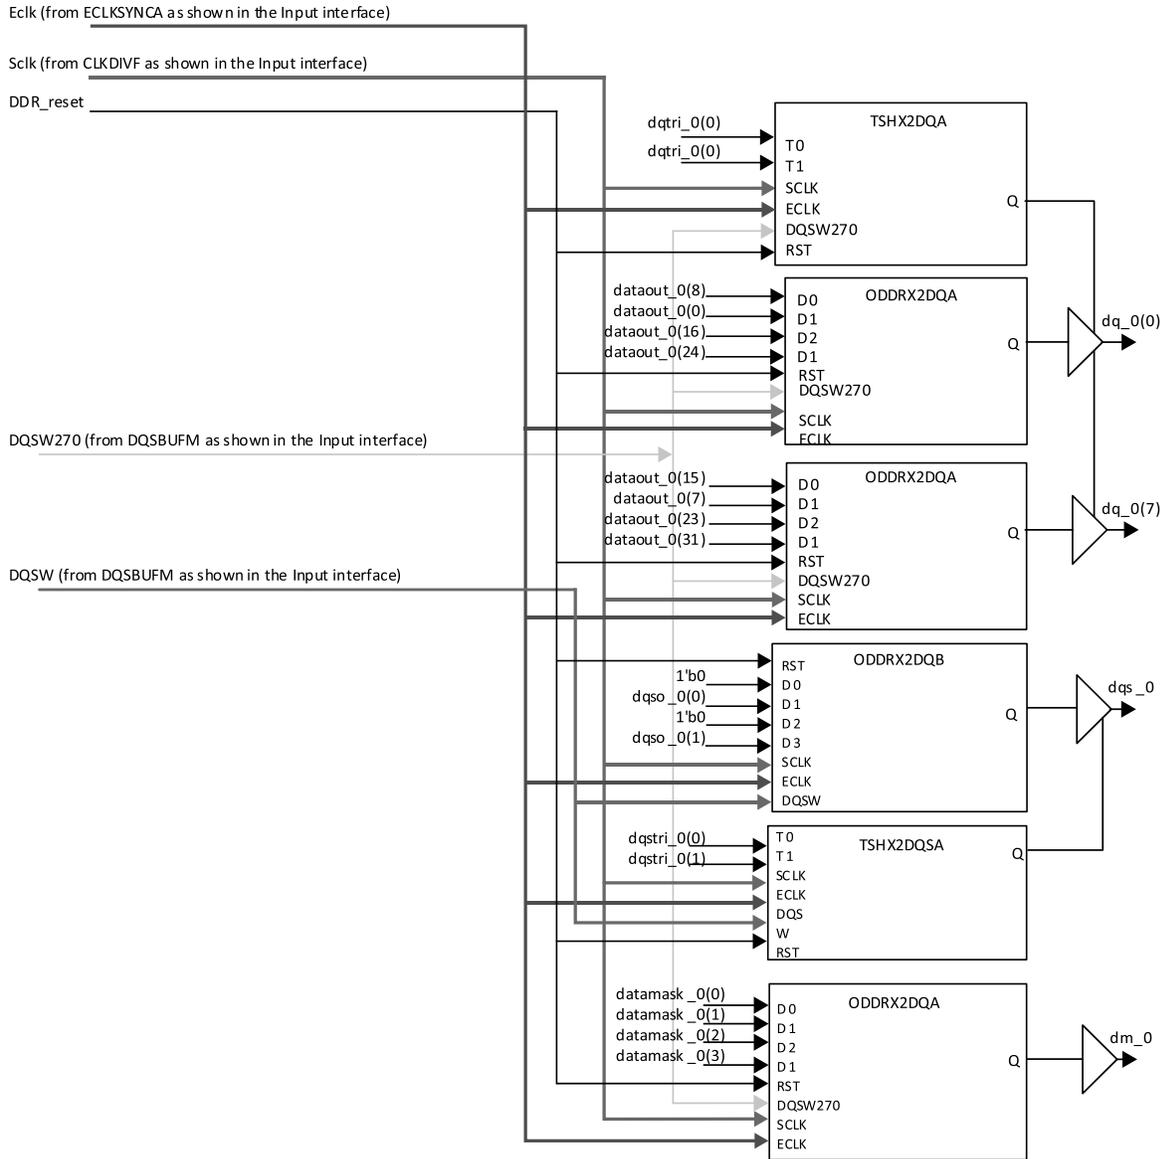
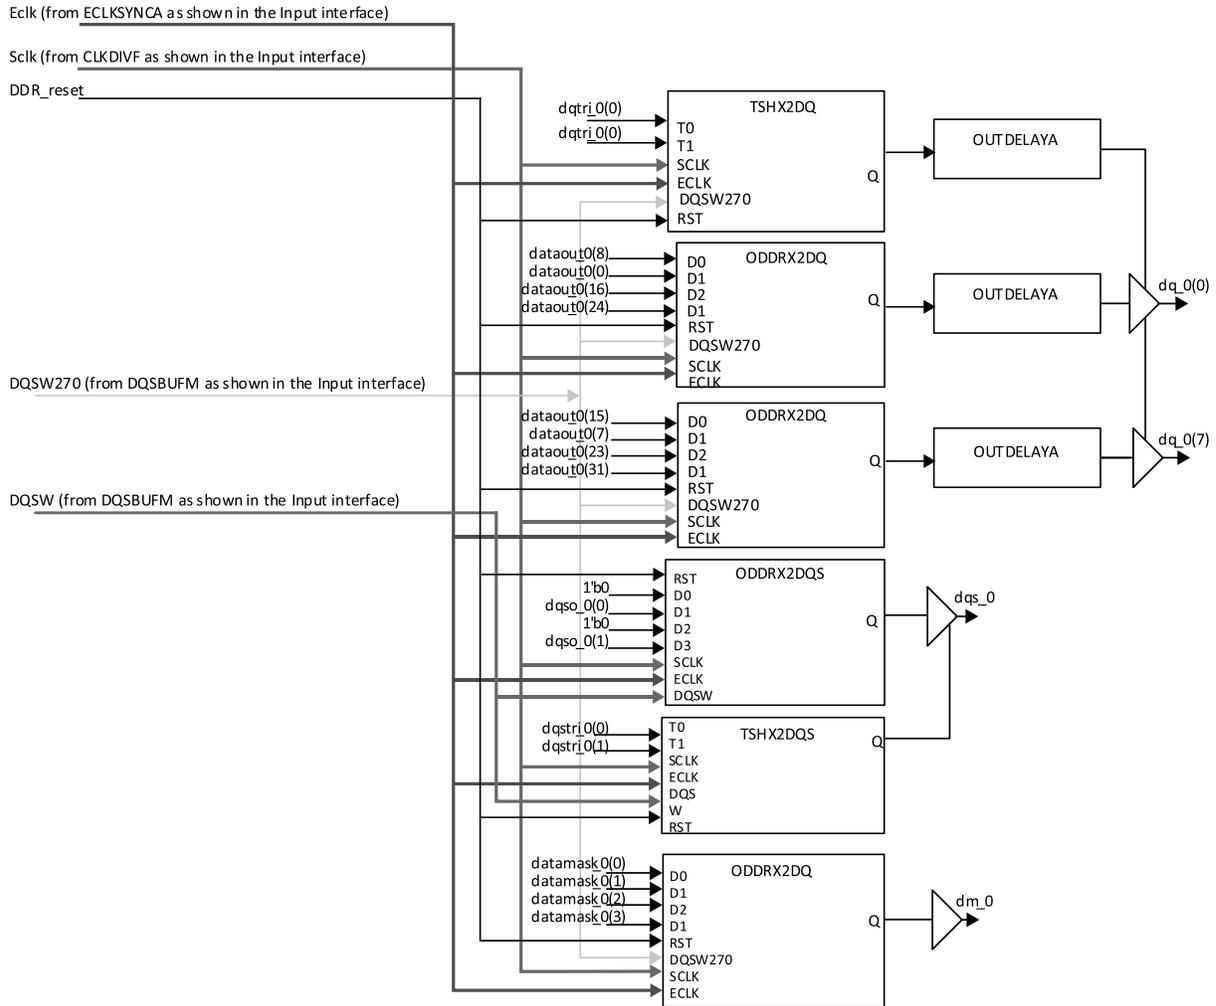

Figure 6.9. DDR3/DDR3L Write Side (DQ, DQS, and DM)
Figure 6.10 LPDDR4 Write Side (DQ, DQS, and DM)
Figure 6.9 and Figure 6.10 show the DDR3/DDR3L and LPDDR4 memory interface write side implementation to generate DQ, DQS, and DM outputs.
- One tri-state is shown in Figure 6.9. The software generates one tri-state element for each DQ port.